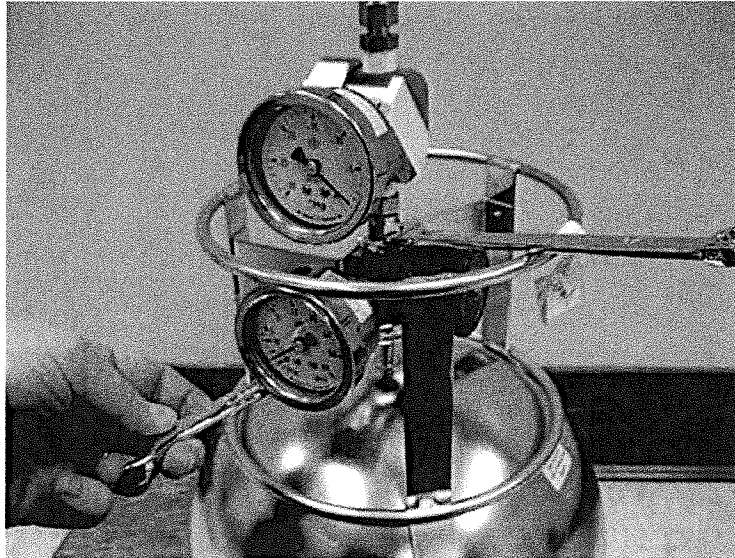

Figure 2. Proper technique to use when tightening the regulator onto the Summa canister.
- 3.1.6 Use two wrenches when tightening nut to prevent torquing the sample train. (Figure 2).